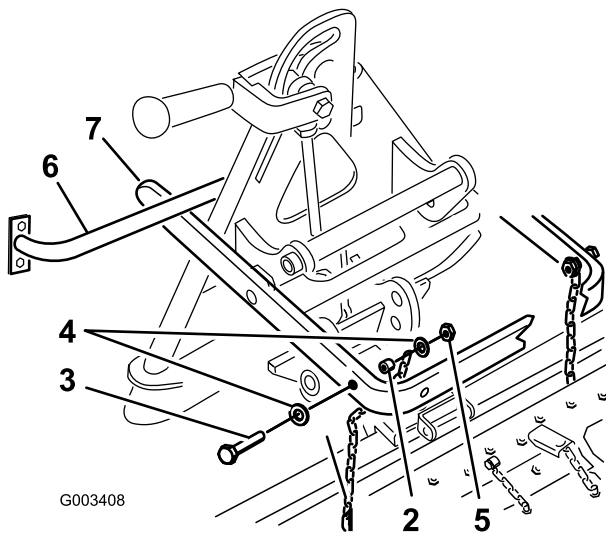

Figure 6
Important: The long arm of the lift arm assembly must be under the traction unit rear frame assembly (Figure 6).
Always lift and move the attachment using the handle on the back of the attachment adapter (Figure 6).
- Secure the top link of each chain to the inside of the lift arm using a bolt (3/8 x 2-1/2 inches), 2 washers (3/8 x 7/8 inch), a spacer, and a locknut (3/8 inch) (Figure 6).